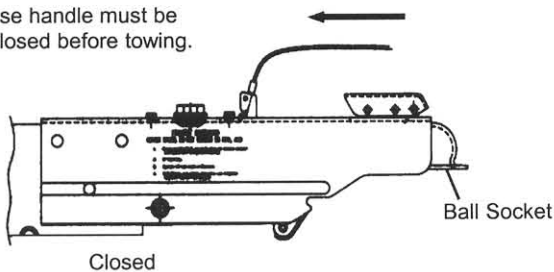

Figure P6: Surge Brake Actuator & Coupling Assembly
For boat models with the Surge Brake Actuator and Coupling Assembly shown in Figure P6, lift the release handle to unlock the coupler. A locking pin or a padlock may be inserted in the locking lever hole to secure the trailer. Refer to Section P-3 Operation for additional information on couplers and hitching to the tow vehicle.
- Lift up on release handle fully (approximately 30° for a trailer with brake actuator and coupler assembly) to allow the ball latch to rotate open. The handle will remain up to indicate that it is not yet attached to the ball. See Figure P6.